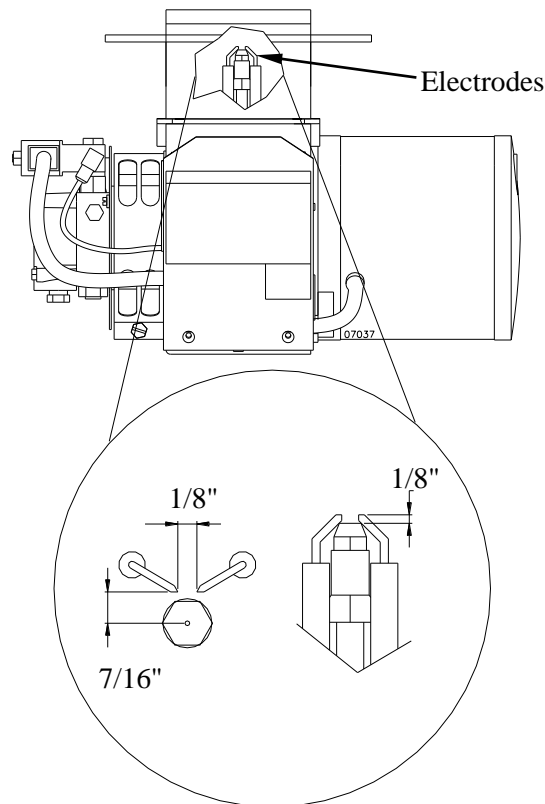

Figure 21
- 4) Reset the spacing as shown below in Figure 21.